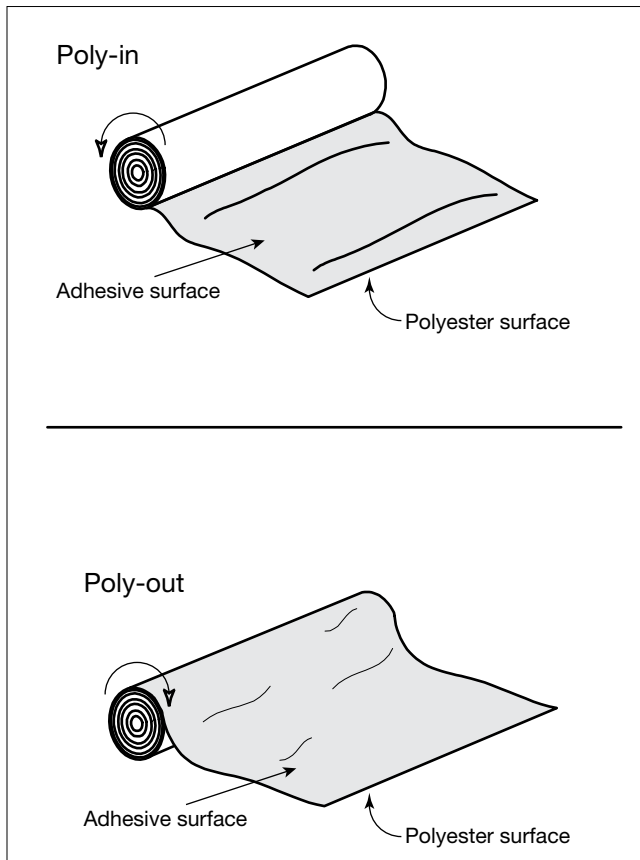

Fig. 6-3. Poly-in and Poly-out Films.
2. Slide the new roll on to the shaft and core adaptors, referring to “Fig. 6-3. Poly-in and Poly-out Films.” on page 6-2 to determine how the film unwinds from the roll. Use the set screws in the core adaptors to move the adaptors if needed.